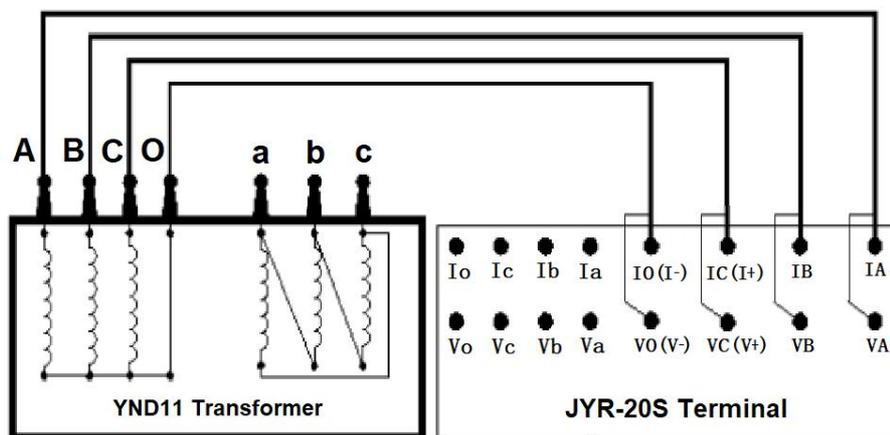

Figure 2
1. **Measurement wiring:** the tested product through the special test cable and the test post of the machine connected, test the large tab of the test cable is connected to the current end, and the small tab is connected to the voltage end. The connection is secure and prevents loosening. At the same time, connect the ground wire well. The wire clamp ends are clamped at the ends of the coil resistance of the test specimen at each end of the lead-out end. For the specific wiring method, please refer to the connection diagram below to take the YND11 transformer as an example. The following example wiring is the least measured wiring, and the lead-out column that does not test the winding needs to be independently suspended. Three-channel measurement wiring: **(three phase measurements of the YN winding)** wiring is shown in Figure 2
**Phase to phase measurement of the YN winding:** (The YN winding phases are measured separately) The wiring is shown in Figure 2